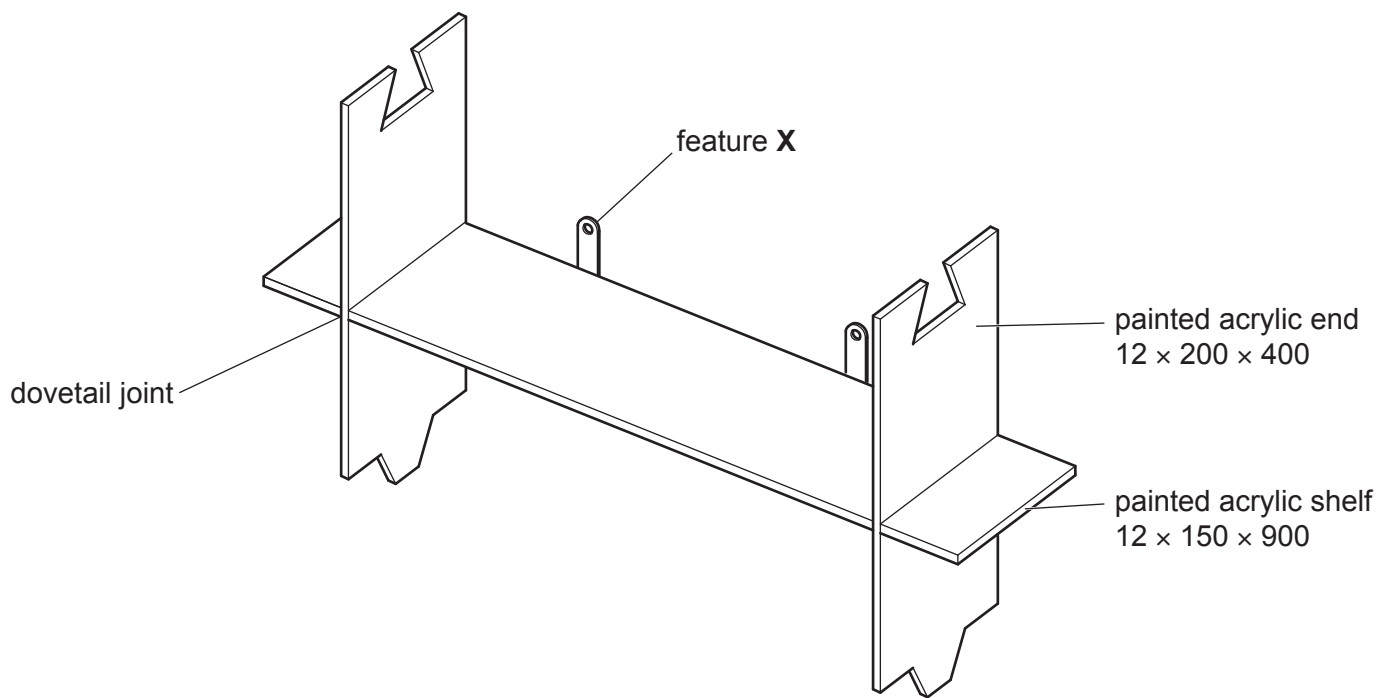

Fig. 5.1
- 5 Fig. 5.1 gives details of an incomplete design for a storage rack. Two or more racks slot together to produce a larger rack.